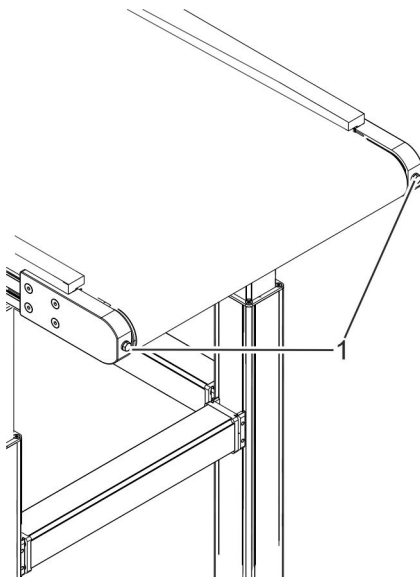

Fig. 74: Tightening the clamping screws
4. ➤ Slacken the conveyor belt by alternately loosening the clamping screws (Fig. 74/1).